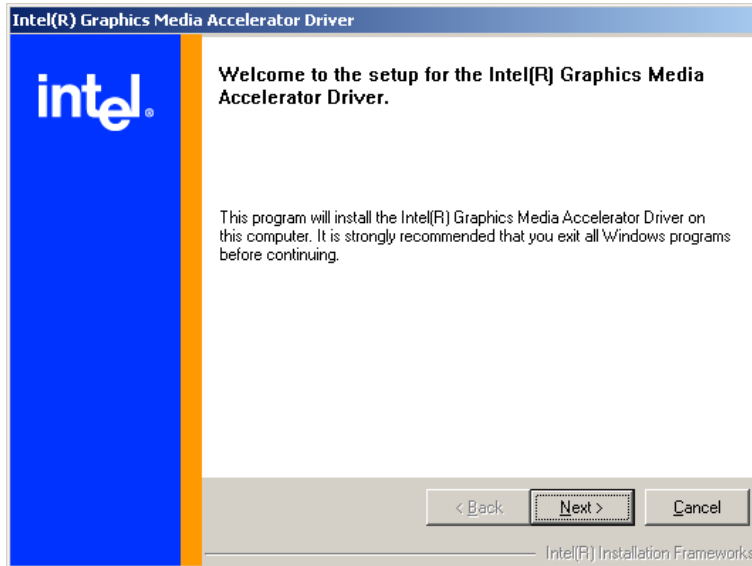

Figure 7-12: Intel® Graphics Media Accelerator Driver Welcome Screen
Step 10: The **Graphics Media Accelerator Driver Welcome** screen appears (Figure 7-12).